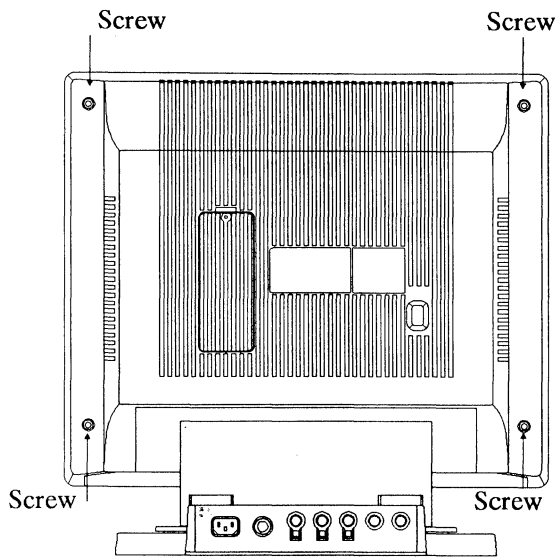

Fig. 4.
7. If you want to readjust another controls - *Focus, Screen, H-center, H-linearity, R.G.B-drive, R.B-bias, NTSC/XOR Selector* - remove the back cover by removing only four screws.(refer to Fig. 4, 5, 6, 7, and Table 2).